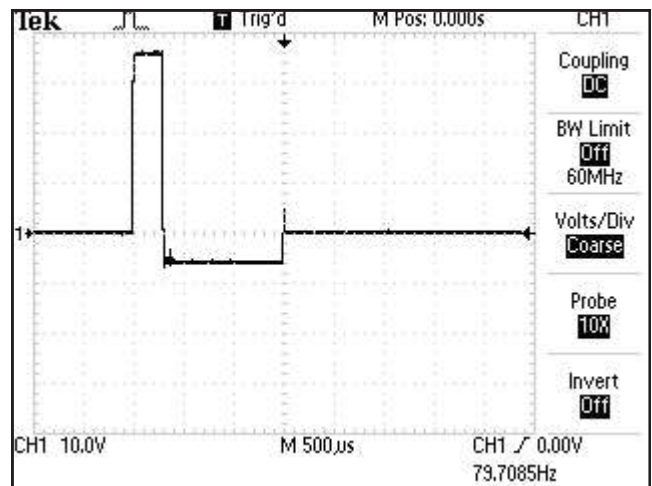

FIGURE 4.3
B. TENS- Asymmetrical Biphasic- Figure 4.3 (Vectra Genisys)